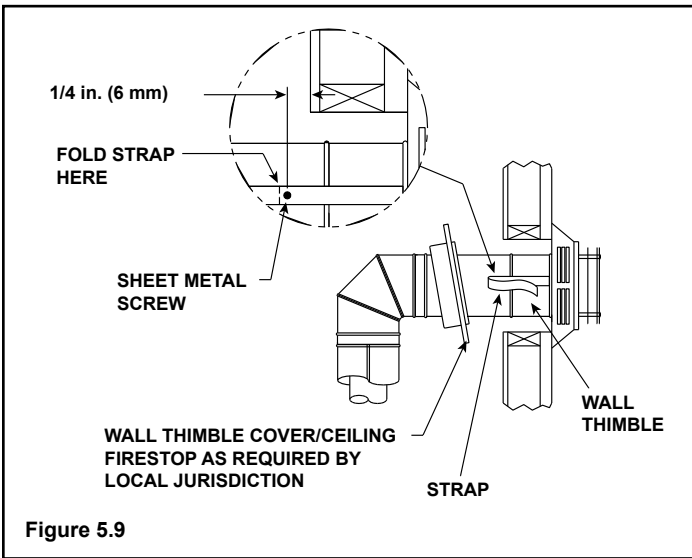

Figure 5.9
11. Place the wall thimble cover over the pipe assembly and slide the appliance and vent assembly towards the wall, carefully inserting the vent pipe into the vent termination cap assembly. It is important that the vent pipe extend into the vent termination cap a sufficient distance so as to result in a minimum pipe overlap of 1-1/4 in. (32 mm). Secure the connection between the vent pipe and the vent termination cap by attaching the two sheet metal strips extending from the vent termination cap assembly into the outer wall of the vent pipe. Use the two sheet metal screws provided to connect the strips to the pipe section (Figure 5.9).